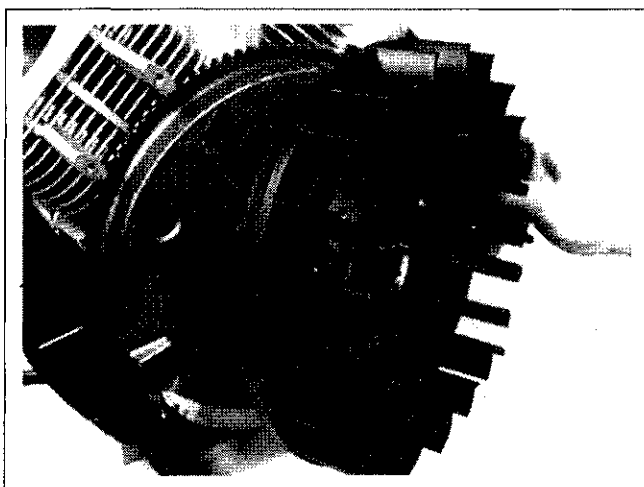

Figure 11-27. Installing Fan on Flywheel.
1. Install fan to flywheel using the four hex. flange screws. **NOTE:** Position ears located at rear perimeter of fan in recesses of flywheel. See Figure 11-27.